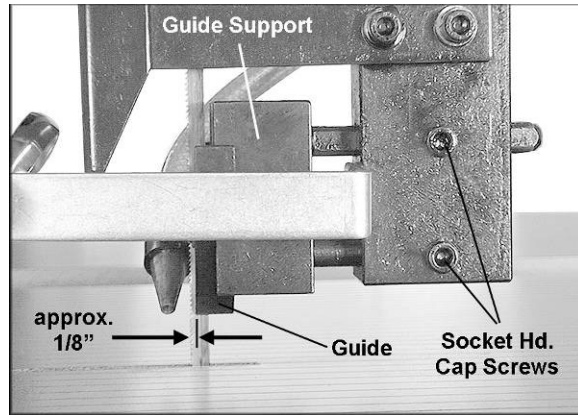

Figure 8
1. Loosen the two socket head cap screws on the guide housing. See Figure 8.
2. Move the guide support forward or backward in accordance with the width of the blade. The front end of the blade guides should be adjusted approximately 1/8" behind the blade teeth. See Figure 8.